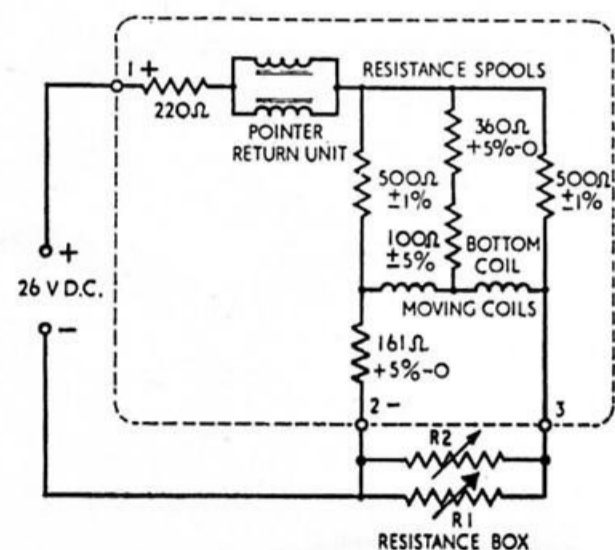

Fig. 2. Combined circuit and test circuit
2. The combined circuit and test circuit diagram is shown in fig. 2. Connections to the indicator are made via three 6-32 U.N.C. screws with captive washers.